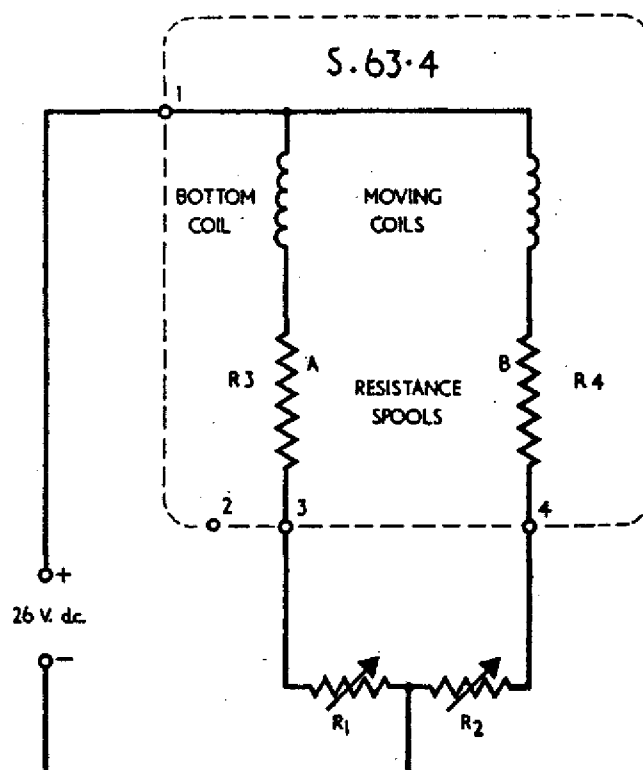

Fig.6 Test circuit diagram Pressure indicator
B. Pressure indicator (Refer to Fig. 6)
- (1) Connect the indicator as shown in Fig. 6 to two decade resistance boxes R1 and R2 which simulate the pressure transmitter resistance changes. Check scale-end indications, if these are incorrect spools A and B must be readjusted.
Connect the indicator as shown in Fig. 6. Check readings against the values quoted in the calibration table which will be found in the appropriate addendum at the rear of this manual. Recalibrate the indicator, if necessary, to obtain correct indication for the resistance values.